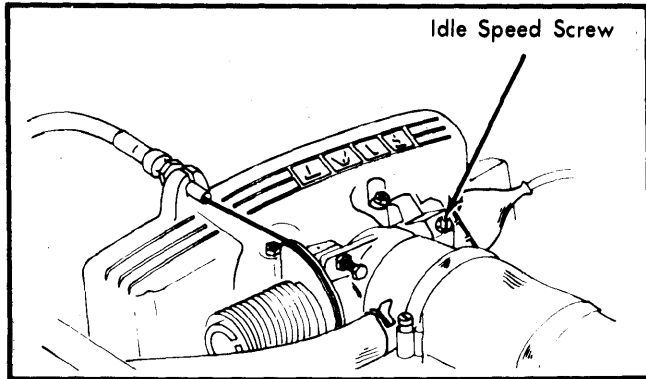

Fig. 4 Fuel Injection Idle Speed Adjustment
2) Turn air bypass screw on top of intake manifold to adjust idle speed to specifications. See Fig. 4.